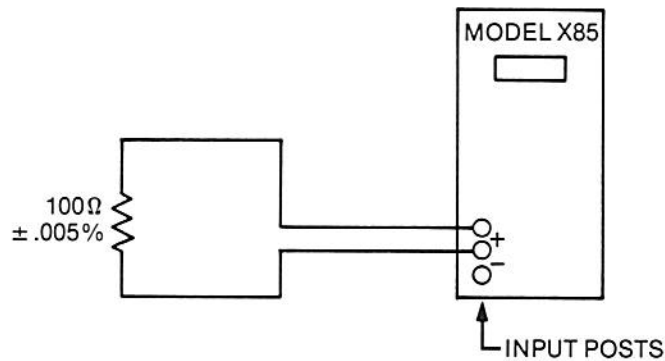

FIGURE 5-4
- Connect the Model X85 and the precision 100 OHM resistor as shown in Figure 5-4. Connect the resistor directly to the OHMS input binding posts of the Model X85 to eliminate errors caused by lead lengths.